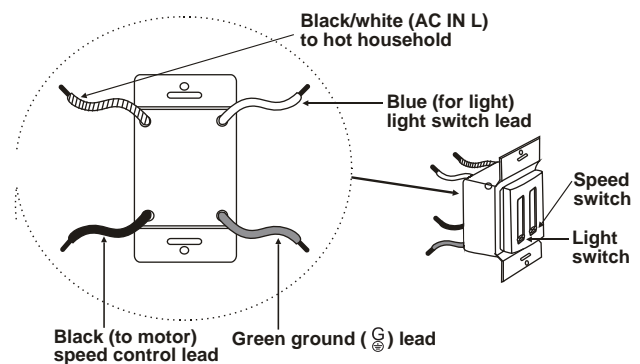

Fig. 2
- Push BOTH slide switches all the way down to the OFF position. (Fig.2)